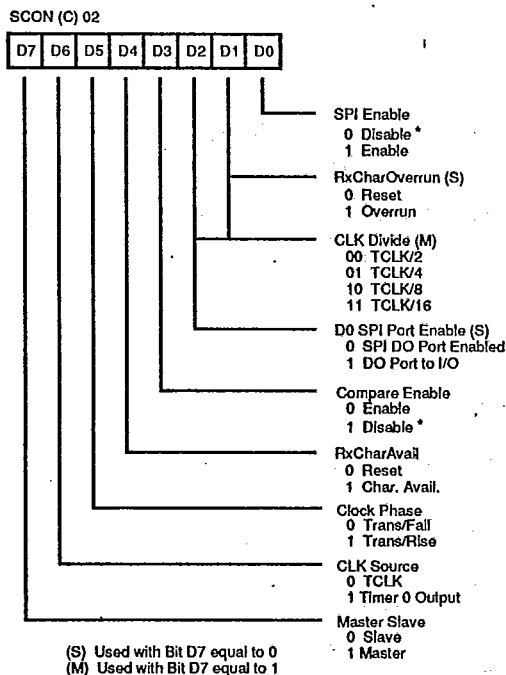

Figure 13. SPI Control Register (SCON)
Serial Peripheral Interface (SPI). The Z86C06 incorporates a serial peripheral interface for communication with other microcontrollers and peripherals. The SPI includes features such as STOP Mode Recovery, Master/Slave selection, and Compare mode. Table 4 contains the pin configuration for the SPI feature when it is enabled. The SPI consists of four registers: SPI Control Register (SCON), SPI Compare Register (SCOMP), SPI Receive/Buffer Register (RxBUF), and SPI Shift Register. SCON is located in bank (C) of the Expanded Register Group at address 02 (Figure 13). This register is a read/write register that controls; Master/Slave selection, interrupts, clock source and phase selection, and error flag. Bit 0 enables/disables the SPI with the default being SPI disabled. A one in this location will enable the SPI, and a 0 will disable the SPI. Bits 1 and 2 of the SCON register in Master mode select the clock rate. The user may choose whether internal clock is divide by 2, 4, 8 or 16. In slave mode, Bit 1 of this register flags the user if an overrun of the RxBUF Register has occurred. The RxCharOverrun flag is only reset by writing a 0 to this bit. In slave mode, bit 2 of the Control Register disables the data-out I/O function. If a 1 is written to this bit, the data-out pin is released to its original port configuration. If a 0 is written to this bit, the SPI shifts out one bit for each bit received. Bit 3 of the SCON Register enables the compare feature of the SPI, with the default being disabled. When the compare feature is enabled, a comparison of the value in the SCOMP Register is made with the value in the RxBUF Register. Bit 4 signals that a receive character is available in the RxBUF Register. If the associated IRQ3 is enabled, an interrupt is generated. Bit 5 controls the clock phase of the SPI. A 1 in Bit 5 allows for receiving data on the clock's falling edge and transmitting data on the clock's rising edge. A 0 allows receiving data on the clock's rising edge and transmitting on the clock's falling edge. The SPI clock source is defined in bit 6. A 1 uses Timer0 output for the SPI clock, and a 0 uses TCLK for clocking the SPI. Finally bit 7 determines whether the SPI is used as a Master or a Slave. A 1 puts the SPI into Master mode and a 0 puts the SPI into Slave mode.